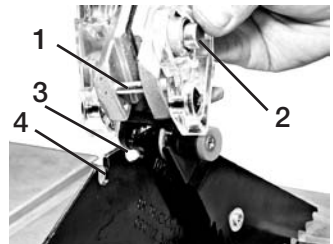
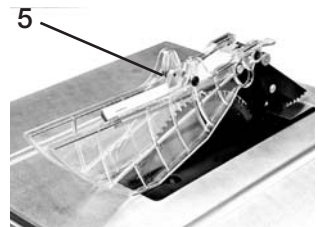

FIG 9
FIG 10
INSTALLING THE BLADE GUARD (FIG 9,10)
1. Position the blade guard assembly (5) over the "L" shaped slot (3) on the splitter so that the pin (1) engages the slot (3) completely. See FIG 9.
2. Place the blade guard assembly down on the splitter. Depress the silver lock button (2).
4. Release the silver lock button (2) to secure. See FIG 10.